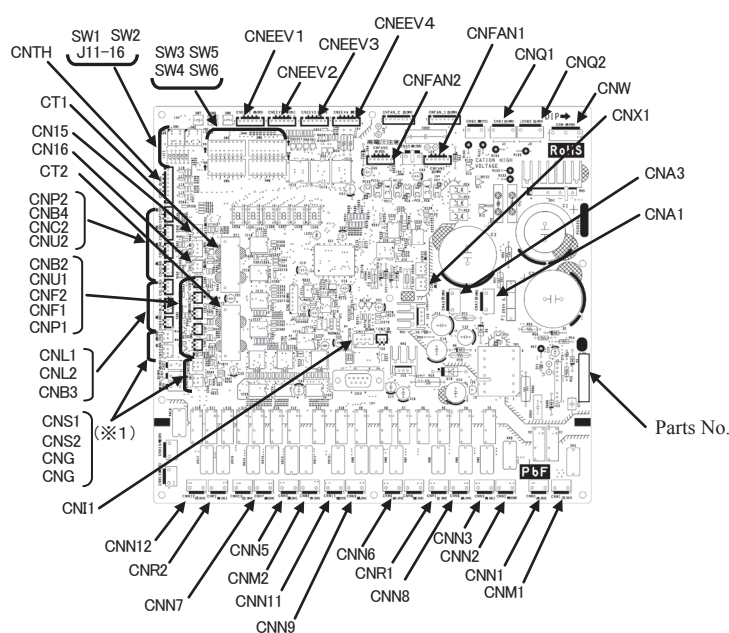

Fig.1 Parts arrangement
(Be sure to measure voltage (DC) and check that the voltage is discharged sufficiently. (Refer to Fig.1))